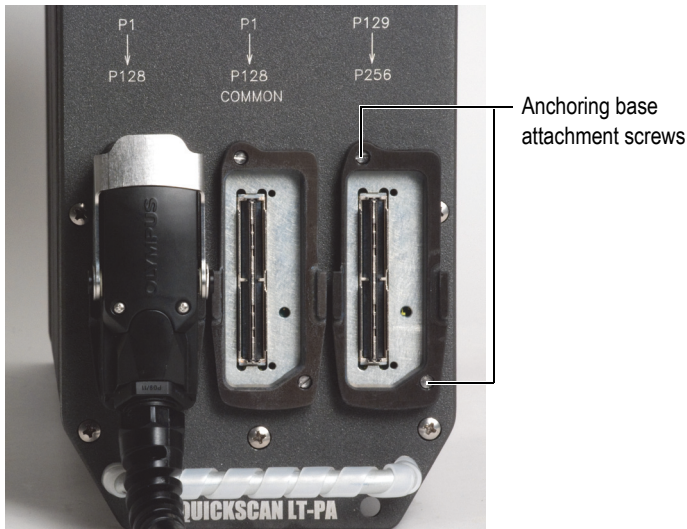

Figure A-2 Phased array— Attachment screws
2. Use a flat-headed screwdriver to screw the anchoring base to the unit (see Figure A-2 on page 74).
- ◆ Use a flat-headed screwdriver to unscrew the two anchoring-base screws (see Figure A-2 on page 74).